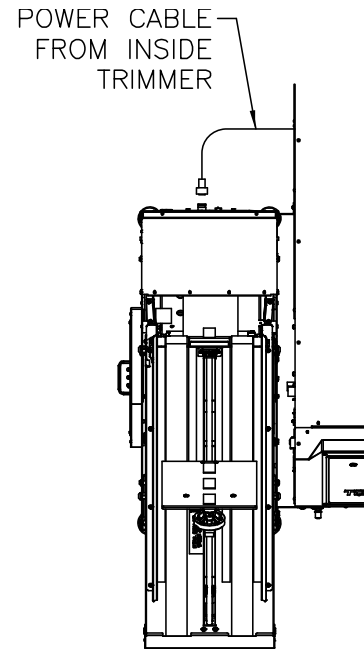

Figure 2-20. Power Cable Connection
3. Connect the power cable as shown in Figure 2-20.